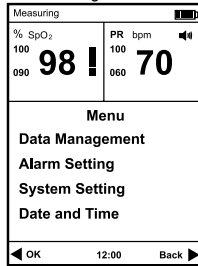

Fig.4-1
1) Press the power switch for 3 seconds to power on the oximeter and then press the menu button to enter the main menu, refer to the Fig.4-1.